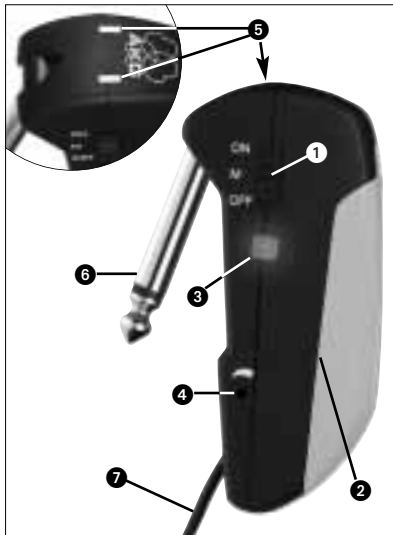

Fig. 1: GB 40 controls.
2.5 Controls (Refer to fig. 1)